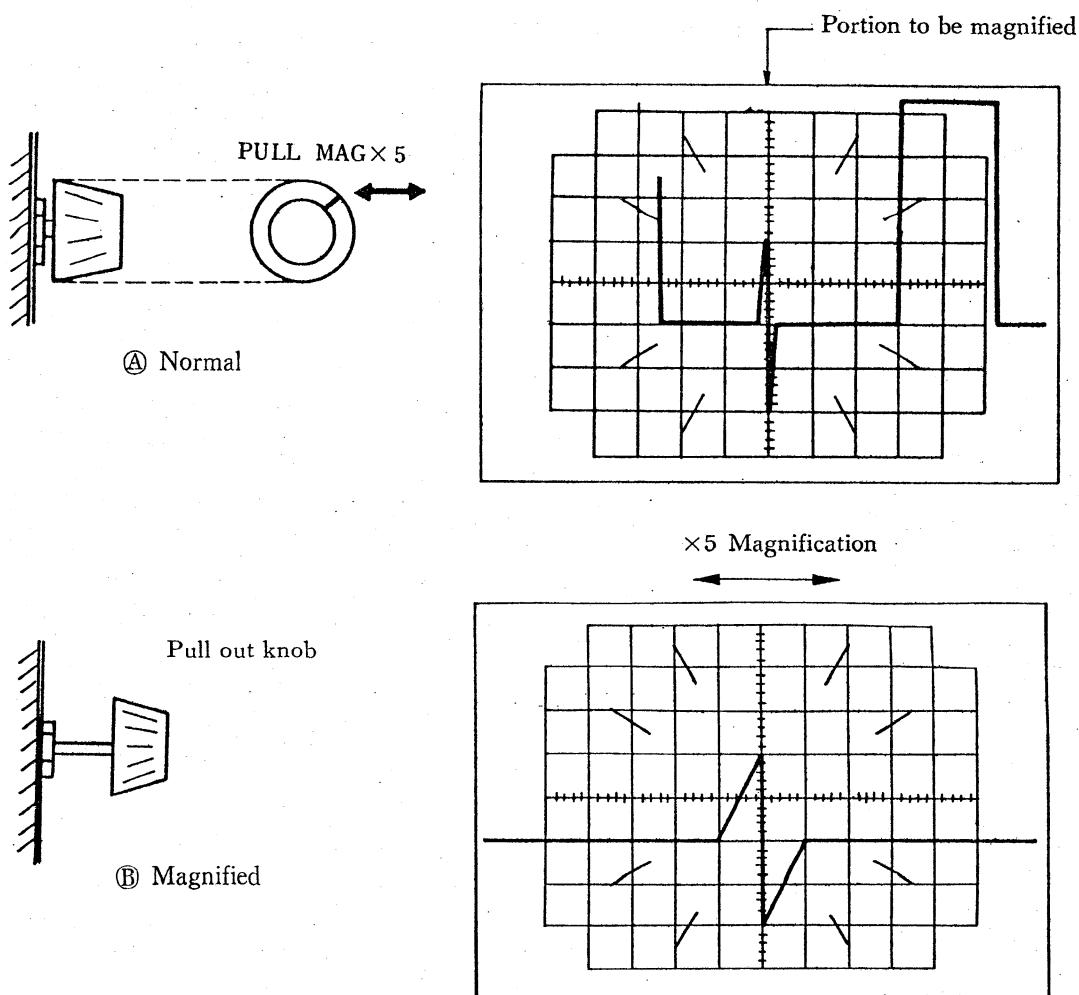

Fig. 3-8 Use of  $\times 5$  magnification.
3. The sweep time will be  $1/5$  (one-fifth) of that marked for the speed in DIV with the VARIABLE knob at CAL'D (fully clockwise). In Fig. 3-8, Ⓐ and Ⓑ show the normal and magnified waveforms respectively.